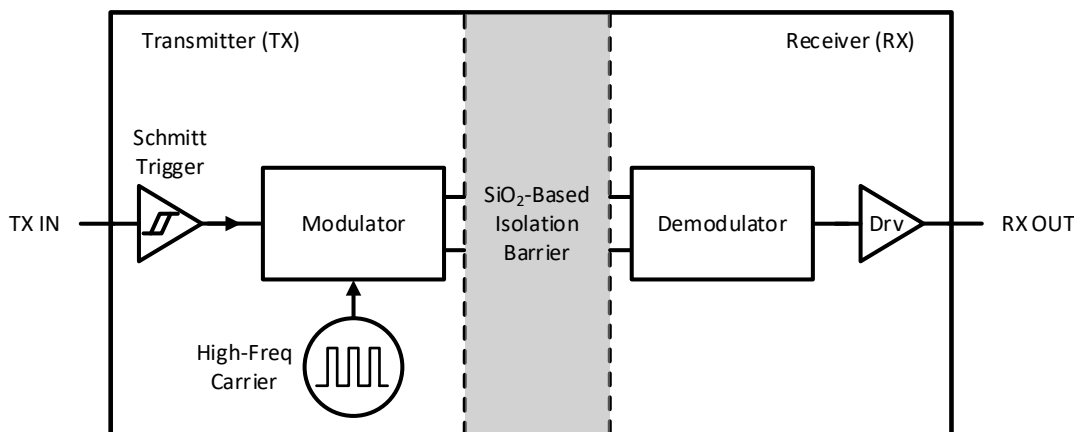
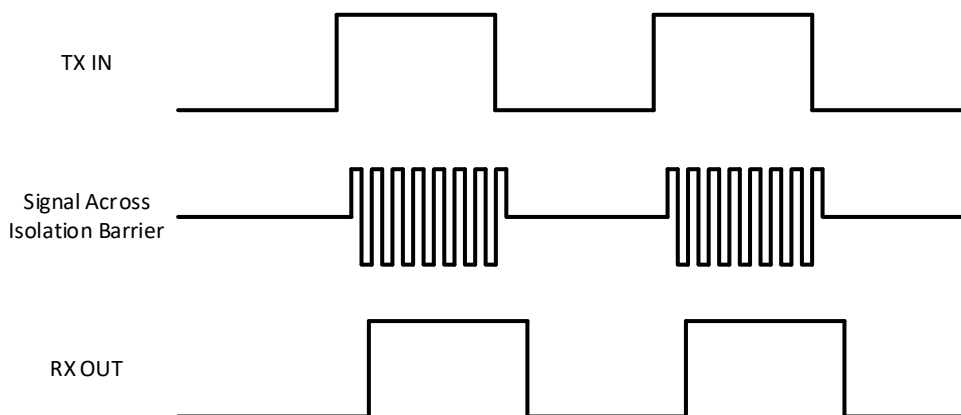

Figure 9-2 Block Diagram of an Isolation Channel
Figure 9-3 Conceptual Operation Waveforms of OOK Modulation Scheme
The CA-IS1300x devices utilize a simple on-off keying (OOK) modulation scheme to transmit the digital bitstream across the SiO₂-based isolation barrier which supports up to 5-kV_{RMS} galvanic isolation between high- and low-voltage domain. The block diagram of an isolation channel is shown in Figure 9-2. As shown in Figure 9-3, the transmitter (TX) modulates the digital bitstream with